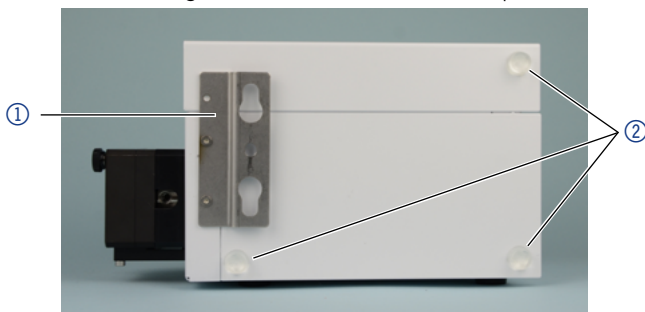

Fig. 34 AZURA® UVD 2.1S with mounting bracket ① and rubber spacers ②
- Put the upper keyhole of the mounting bracket onto the washer at the AZURA® L device (Fig. 34) and slide the valve drive down until the middle hole locks with the lower screw of the guidance clamp (Fig. 35).